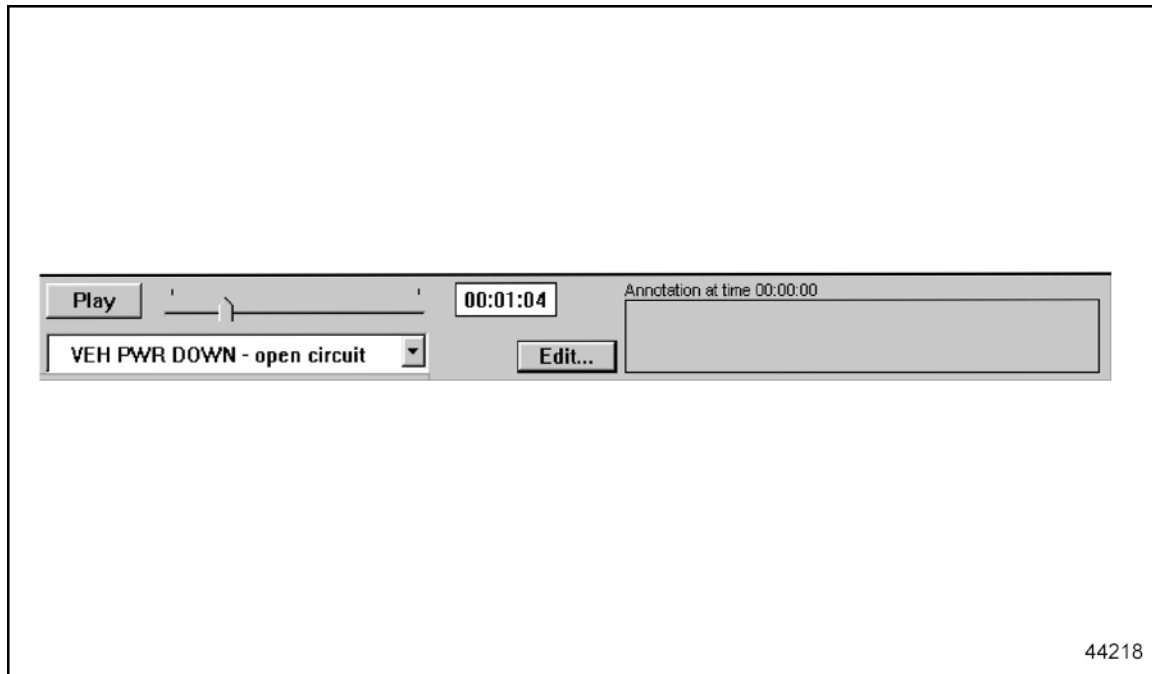

Figure 6-7 Snapshot Replay Controls
5. When opening a snapshot, replay controls will appear at the bottom of the DDDL window opened. See Figure 6-7.